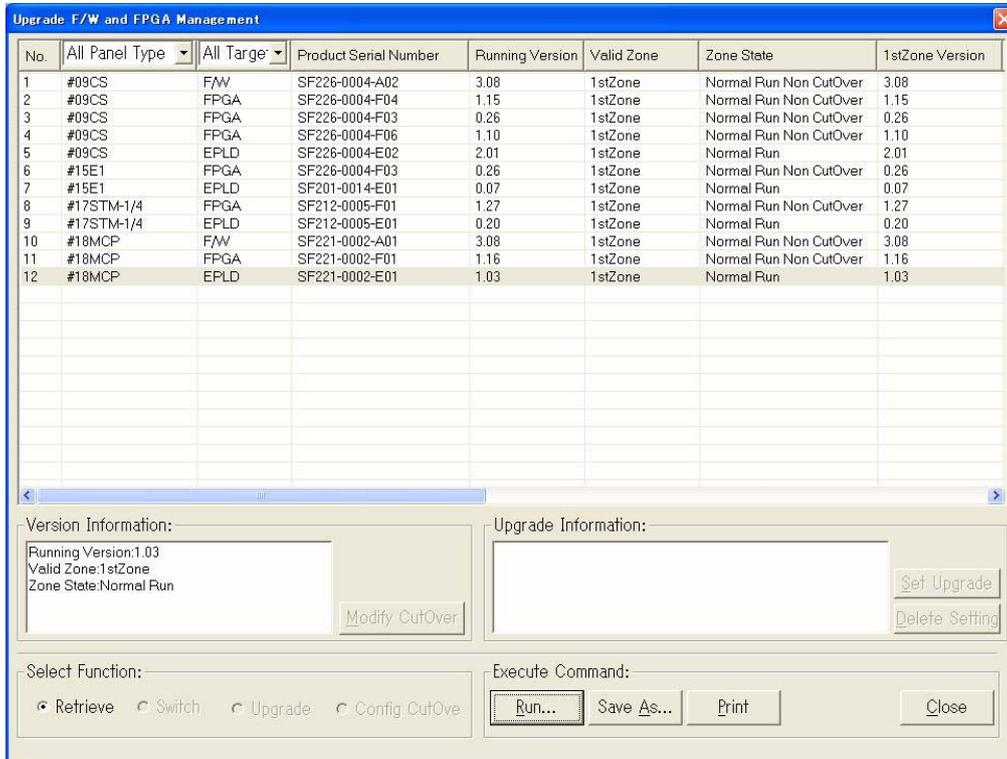

Fig. 4-10-1 Upgrade F/W and FPGA Dialog Box
- 3 Select **Upgrade F/W and FPGA** from the **Maintenance** menu. The **Upgrade F/W and FPGA** dialog box shown in *Fig. 4-10-1* appears: